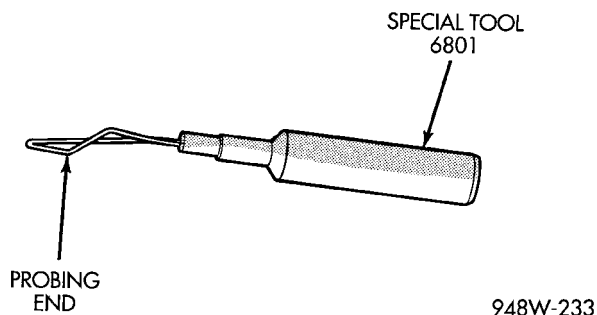

Fig. 9 Probing Tool
- Probing Tools - These tools are used for probing terminals in connectors (Fig. 9). Select the proper size tool from Special Tool Package 6807, and insert it into the terminal being tested. Use the other end of the tool to insert the meter probe.